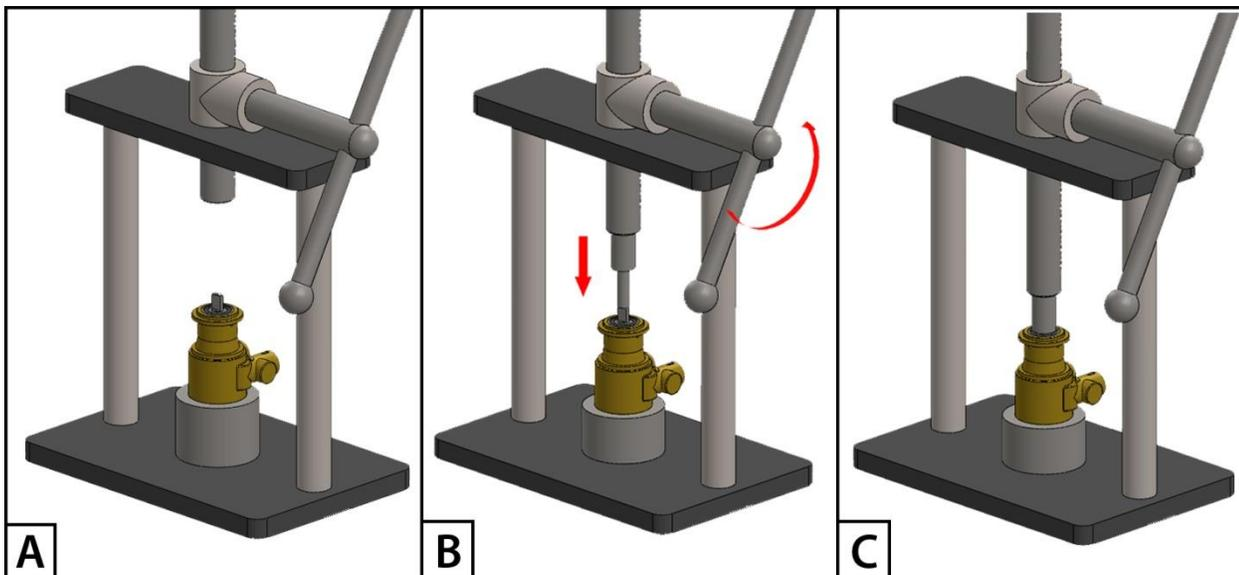

Figure 3 Diagram illustrating the tasks required to carry out Step 2.2.
- 2.2.1 Flip the pump housing and place it in the housing support with the bearing end facing upwards, as shown in Figure 3.